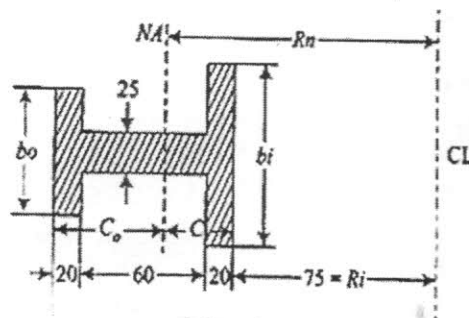

Fig. 1a
1. a) Determine the dimensions of I-section, as shown in Fig. 1a, in which maximum fiber stresses are numerically equal where $b_i + b_o = 120$ mm.